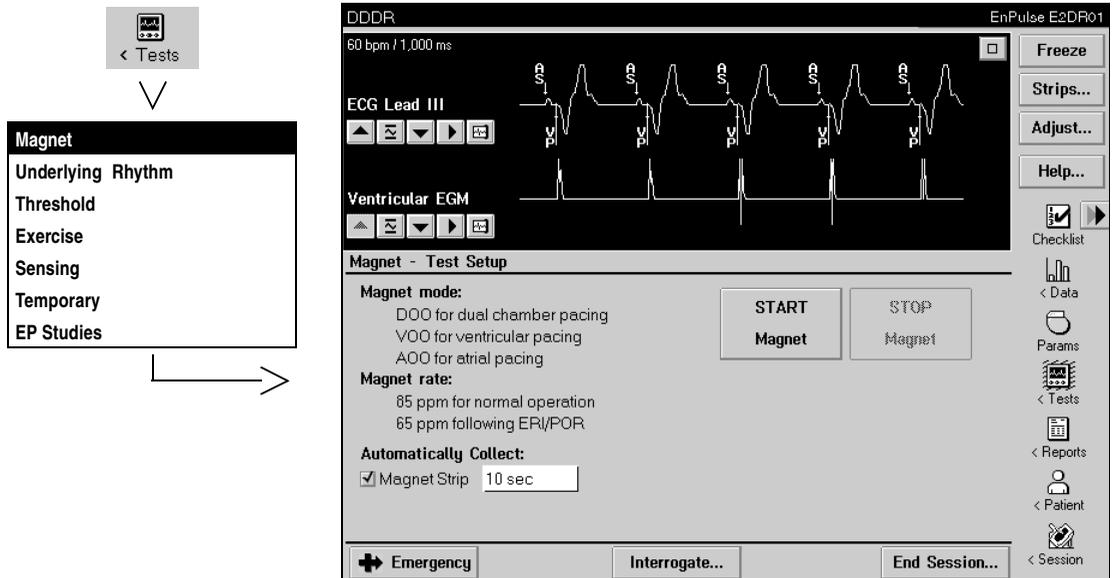

Figure 3-9. Magnet Test Setup screen
1. Display the Magnet Test Setup screen (see Figure 3-9 on page 3-27).